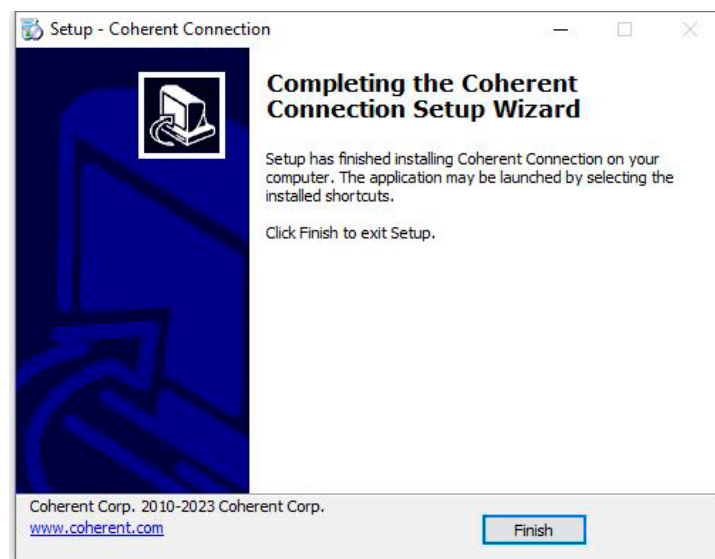

Figure 3-8. Finish the Software Installation
9. After all files are extracted, click Finish. The screen shown in Figure 3-8 closes and the software can be started.